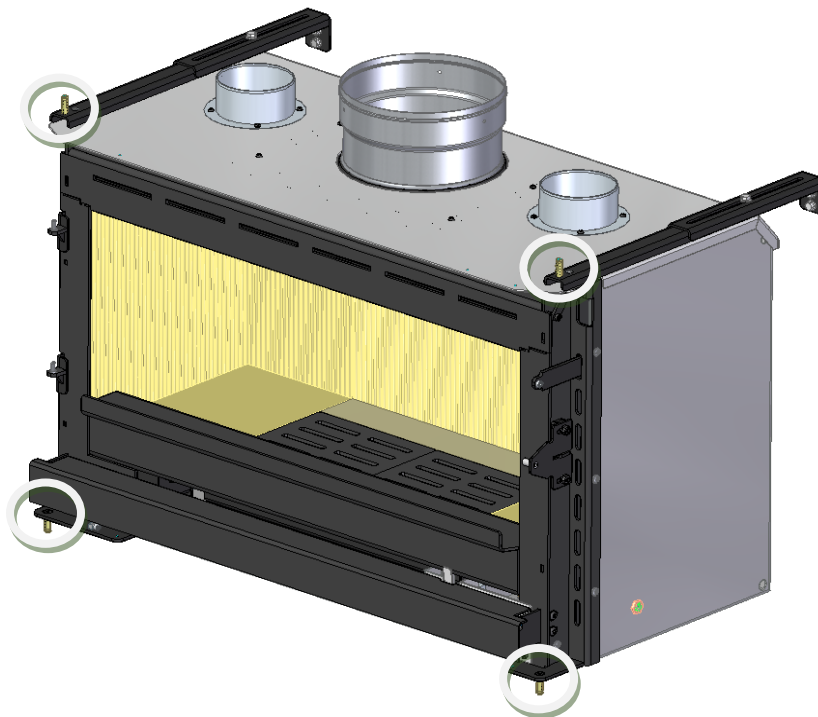

Figure 17 - Fixing the equipment to masonry
15. If you intend to place the unit into masonry, you should use the brass bushes and countersunk head screws that come with the unit fixing kit (PA1090G053). You should take the correct measurements for drilling the holes in the masonry and fix the unit in the following locations as shown in Figure 17.